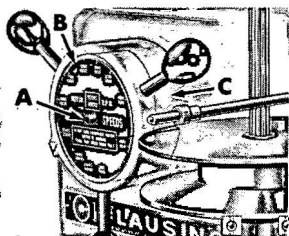

Figure 2
Once a year, clean and grease (medium cup grease) cam in handwheel (C, fig. 2). To disassemble — loosen screw (A) and remove plate (B); remove handwheel by taking out center bolt.